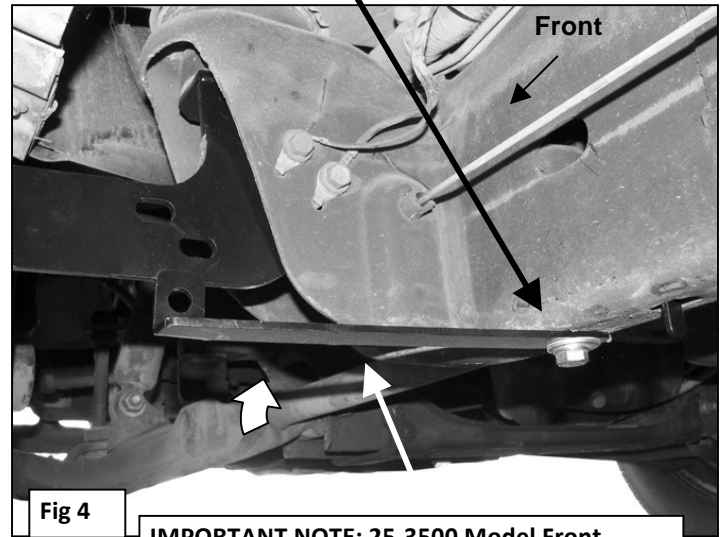

Fig 4
Note that the Front Support Bracket will not reach up to the Mounting Bracket, (**Figures 3 & 4**). Tighten the Support Bracket to the Nut Plate in the frame. Carefully push up on the Support Bracket until it reaches the inside hole in the Mounting Bracket, (**Figure 4**). Bolt the Support Bracket to the hole in the Mounting Bracket with (1) 10mm x 30mm Hex Bolt, (2) 10mm Flat Washers, (1) 10mm Lock Washer and (1) 10mm Hex Nut. Do not tighten at this time.